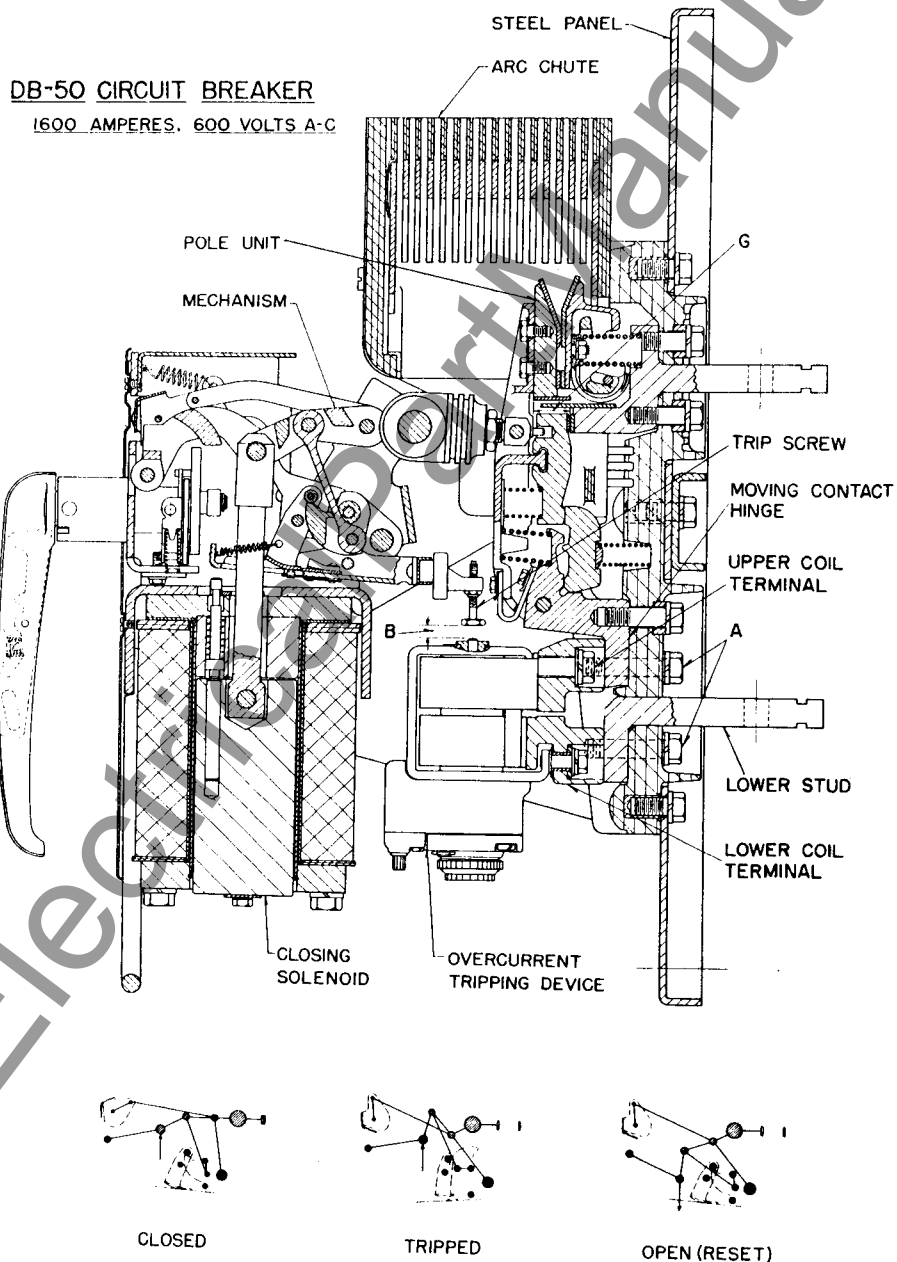

Fig. 3—Cross-Sectional View of Type DB-50 Circuit Breaker
Each pole unit is mounted on a separate molded base through which the breaker studs pass. (See Fig. 3.) The molded bases are attached to the steel mounting panel and provide insulation for the breaker studs.
**CONTACTS.** (See Fig. 3.) The DB-50 arcing contact should touch first on closing, open last on opening. Contact pressure on the mains is maintained by adjusting gap G to be .984-1.000 inch. This gap is adjusted by removing the cross bar and screwing the insulating link in or out on the stud. Be sure to tighten the lock nuts after each adjustment.
The operating mechanism (see Fig. 3) is non-adjustable and consists of a series of non-ferrous links designed to secure low closing and tripping forces. To check for friction, raise the trip bar and slowly rotate the manual operating handle in close and trip direction. The linkage should follow the handle without sticking.
To install the overcurrent trip to the circuit breaker it is merely necessary to insert the device into the pole so that the upper coil terminal makes contact with the lower part of the moving contact hinge and the lower coil terminal contacts the lower breaker stud as shown in Fig. 3. The unit is then bolted in
this position by means of four hexagon head, steel bolts 2-1/2 inches long shown at A, Fig. 3. Use only one lock washer under the head of each of the bolts. Care should be taken to make sure that bolts longer than specified above are not used, because the ends of the bolts may bottom in coil terminal thereby causing a loose connection.
To remove an overcurrent tripping device from the breaker, remove the four bolts A Figure 3 which hold the tripping device to the breaker base. Before removing the last bolt, hold the tripping device to prevent it from falling.